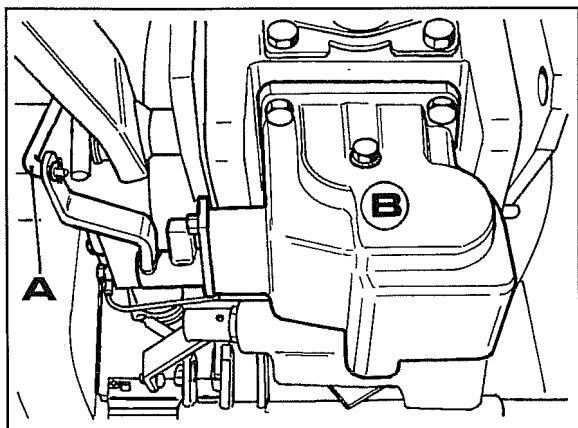

Fig. 1
3. Disconnect the underbelly PTO **B** Fig. 1 control linkages and then remove the underbelly PTO.